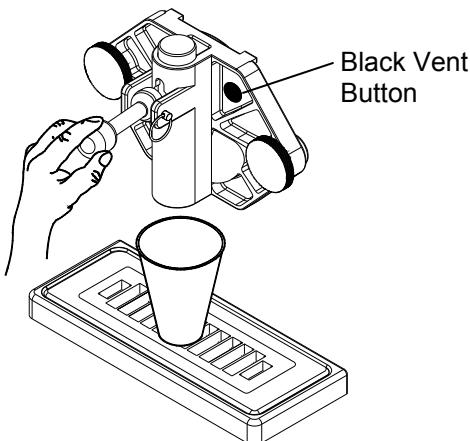

Fig. 36
3. Place a 16 oz. cup under the spigot and open the spigot handle (Fig 36). Turn on the fill switch. (This will chase the sanitizing solution from the mix pan and freezing cylinder.) Close the spigot handle when the sanitizer is purged from the system.